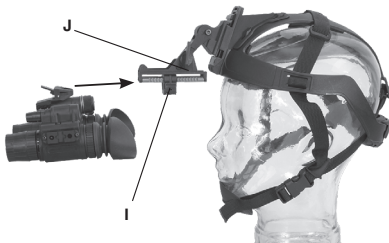

FIGURE 3-3
- 4) Align the adapter and the head/helmet mount as shown on the figure. Slide the goggles rearwards until the alignment boss aligns with the alignment groove on the head/helmet mount. Push until the goggles locks into the head/helmet mount (Figure 3-3).